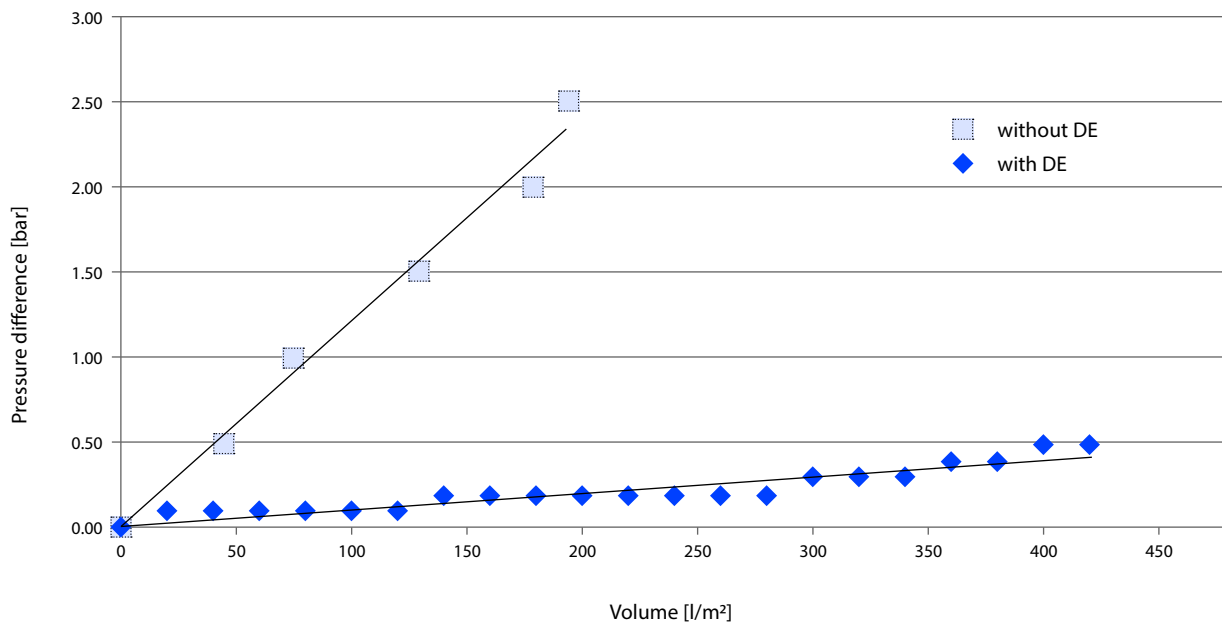

Figure 2: clogging curve; example of filtration time during harvest with and without DE
Why is the use of filter aid necessary? Standard depth filters can no longer handle the higher and higher cell titers ( $>10^8$  cells/ml) in fermentation broths. By using a filter aid such as diatomaceous earth (e.g. Celpure®) the filtration volume per filter area can be increased by up to 80% (see figure 2). The filter aid is suspended in the fermentation broth or in buffer/water and then washed onto the FILTRODISC™ BIO SD modules to form a filter cake. When doing this, the filter sheet (e.g. PURAFIX® CH 09P) in the modules, themselves function not as filters, but merely as a support for the filter cake, which is where the actual slurry removal takes place.
1. *Extension of filtration volume per area:* Due to the formation of the filter cake the filtration volume per filter area can be extended greatly, in some cases up to 80% (figure 2).